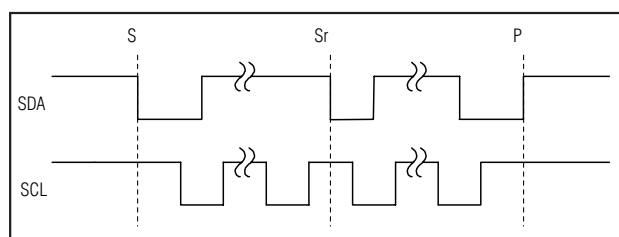

Figure 5. START and STOP Conditions
The master initiates a transmission with a START condition (S), a high-to-low transition on SDA while SCL is high. The master terminates a transmission with a STOP condition (P), a low-to-high transition on SDA while SCL is high (Figure 5). A repeated START condition ( $S_r$ ) can be used in place of a STOP condition to leave the bus active and the interface mode unchanged (see HS mode).